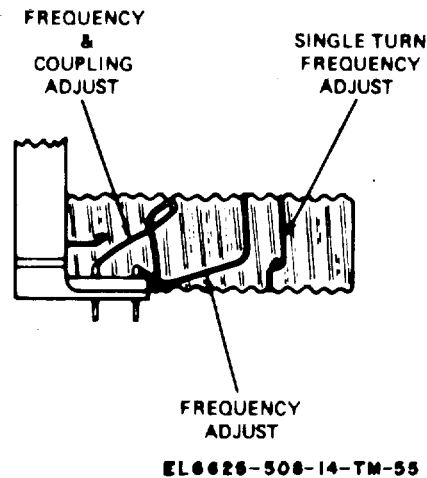

Figure 6-26. Typical rf oscillator coil, frequency adjustments for ranges A,B,C.
(17) Set signal generator FREQUENCY RANGE switch at B, and MEGACYCLES dial at 44 MHz. Refer to figure 6-26.
(18) Set signal generator's FREQUENCY RANGE switch at A, and MEGACYCLES dial at 22 MHz. Refer to figure 6-26.